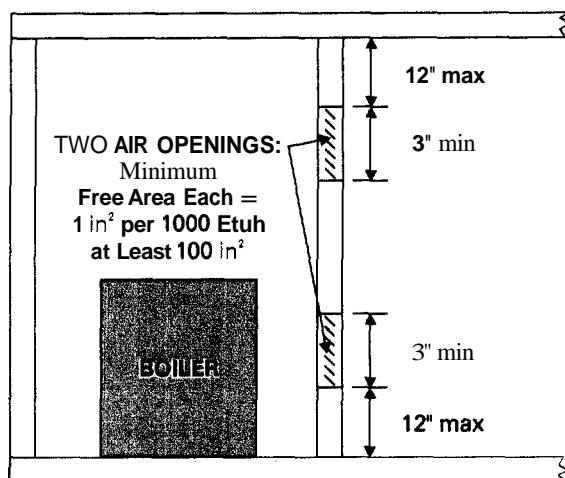

Figure 12: Air Openings
Each opening with a minimum free area of one square inch per 1000 Btu/hr. of the total rating of all gas utilization equipment in the confined space, but not less than 100 square inches. Begin with one opening 12 inches from the top, and begin the other opening within 12 inches of the bottom of the enclosure. See Figure 12. Provide air openings with minimum dimensions not less than three (3) inches.